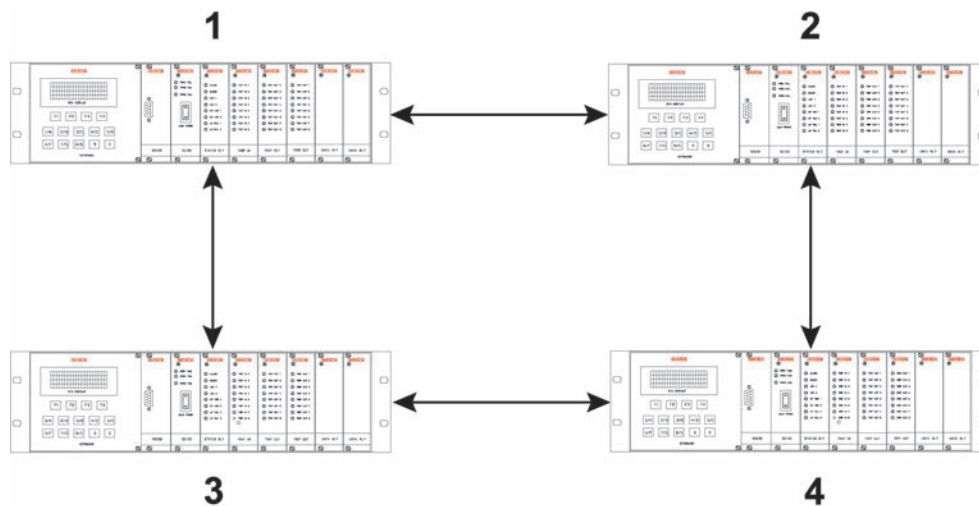

Figure 4-8. Ring Configuration
**EXAMPLE:** Figure 4-8 shows a ring of four PDR-2000's with bi-directional communications between units. With Packet Forwarding On, Unit 1 can send a Trip to Unit 4. For the purposes of this example, Unit 4 is programmed to Trip when it receives a Trip from Unit 1 on channel B. Unit 1 communicates over two different communication paths (using Com port 1 and Com port 2) to Units 2 and 3. Units 2 and 3 receive the packets, determine if there is valid tripping data for their logic, and retransmit the packet out of the Com port the packet was not received on. Whether or not there is a Trip for Unit 2, it passes on the packet to Unit 4. Unit 3 performs the same routine with the packet and passes it to